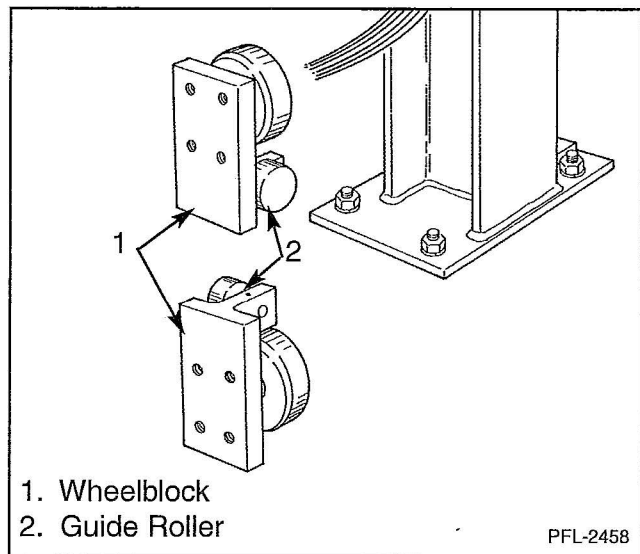

Figure 11
1. Install the two upper carriage wheelblocks with the guide rollers facing down. Then install the two lower carriage wheelblocks with the guide rollers facing up. See Figure 11.